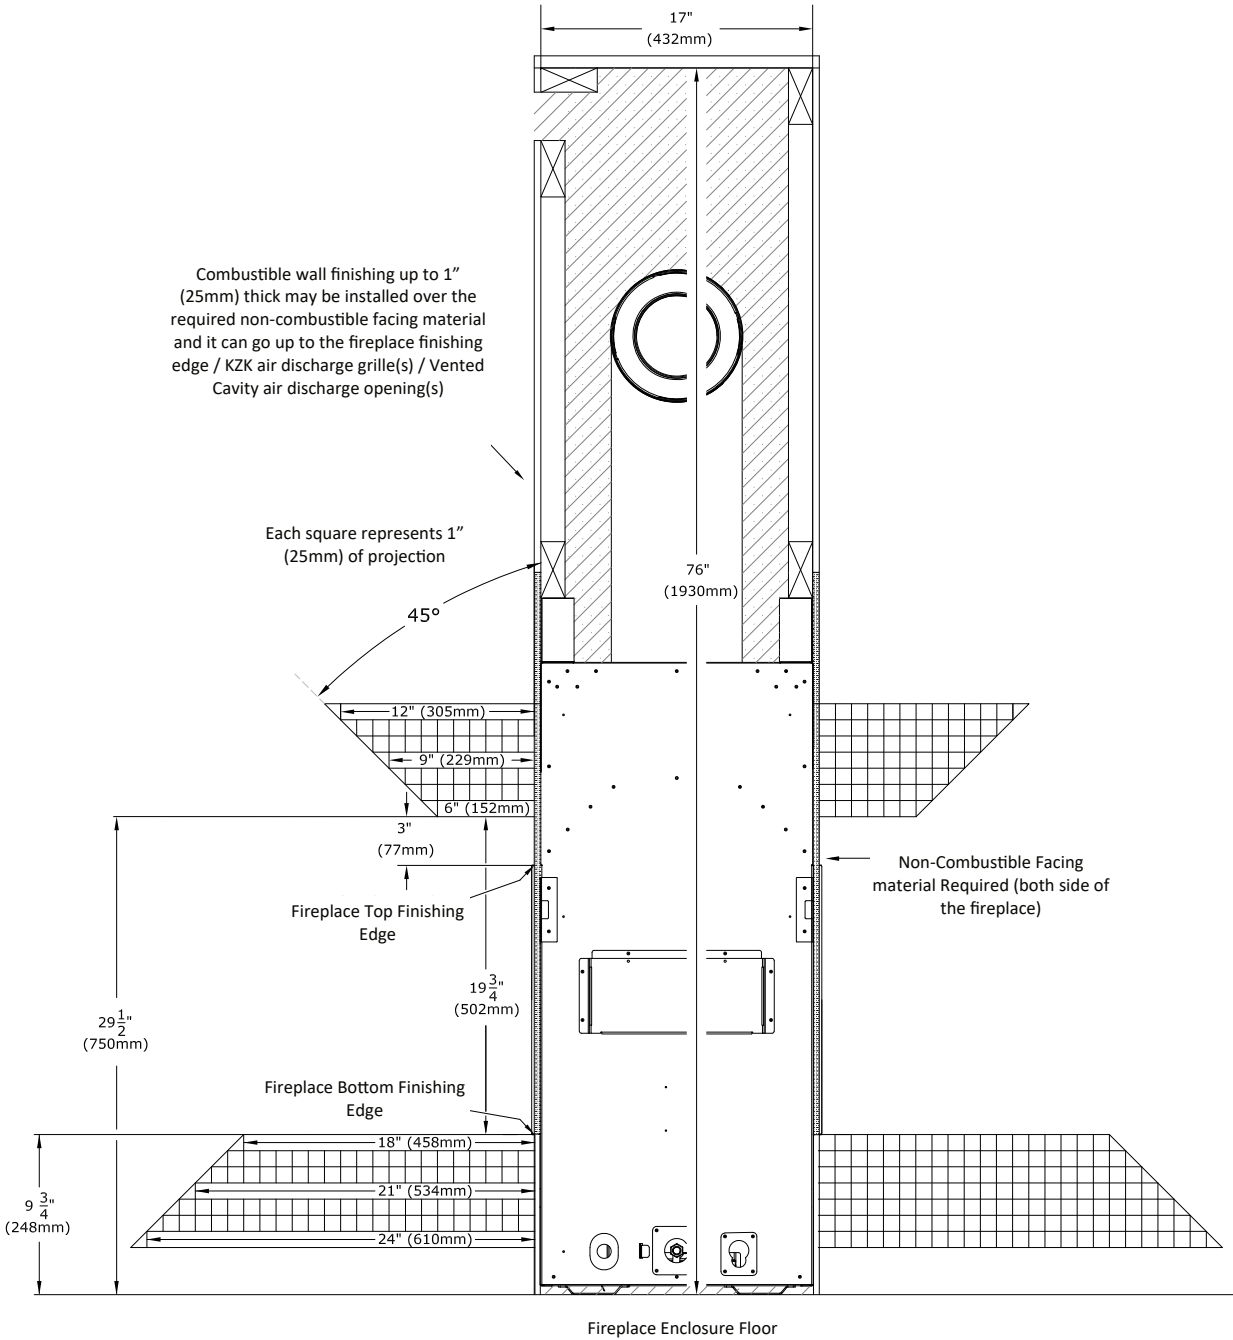

Figure 5.6 - Combustible Mantel and Hearth Projection - KZK or Vented Cavity Installation - No Surround
- **Combustible Mantel Projections:** As referenced in Figure 5.6, a 6" (152mm) combustible mantel can be installed 3" (76mm) above the top fireplace top finishing edge. Combustible mantel projections can increase 1" (25mm) of depth for every 1" (25mm) of height starting at the 6" (152mm) mantel.
- **Combustible Hearth (no surround):** As referenced in Figure 5.6, an 18" (458mm) combustible hearth projection can be installed at 0" (0mm) with the fireplace bottom finishing edge. Hearth projections can increase 1" (25mm) for every 1" (25mm) further away from the fireplace bottom finishing edge. If installing an optional surround, refer to Measurement 'B' in Section 5.8 Finishing Guidelines for Optional Surrounds.